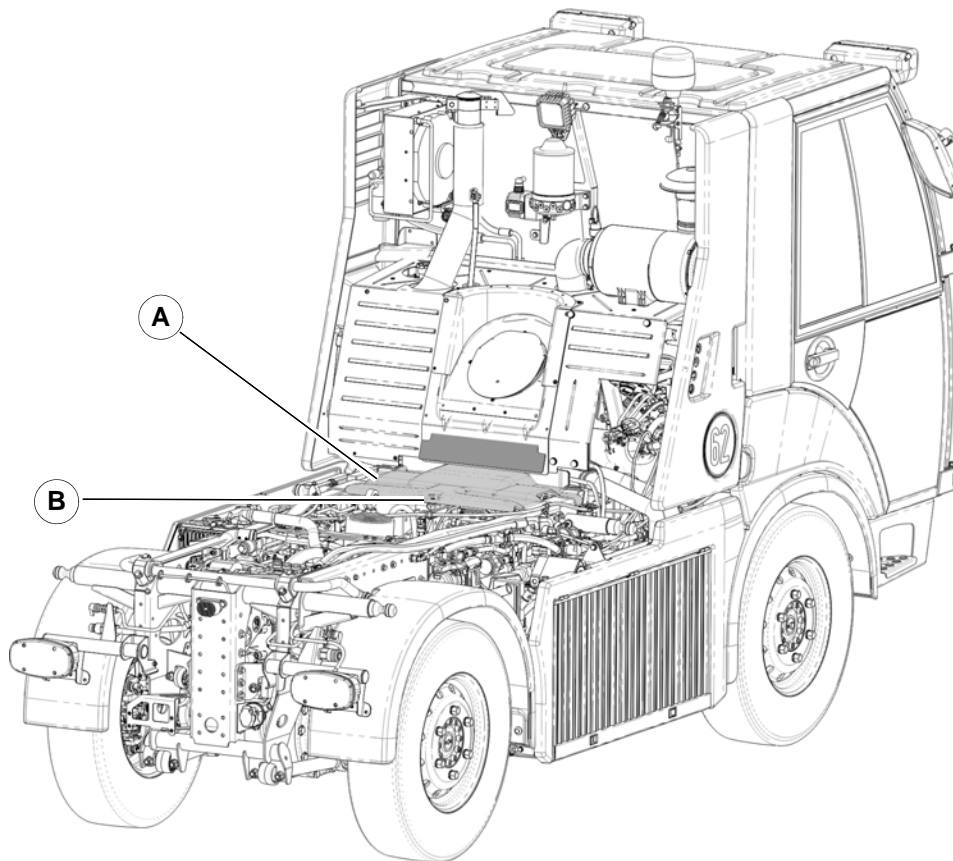

Fig. 141:
3. Loosen the fastening bolt **Fig. 141-B** and swing up the engine cover **Fig. 141-A** and remove it to the front.